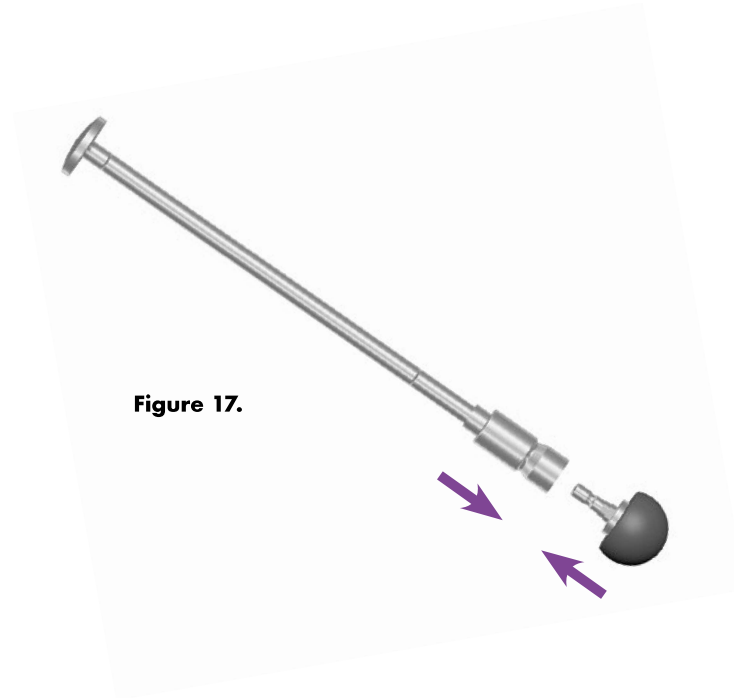

Figure 17.
3. Select the appropriately sized Plastic Insert Impactor Tip and load onto Insert Positioner/Impactor Handle (**Figure 17**).